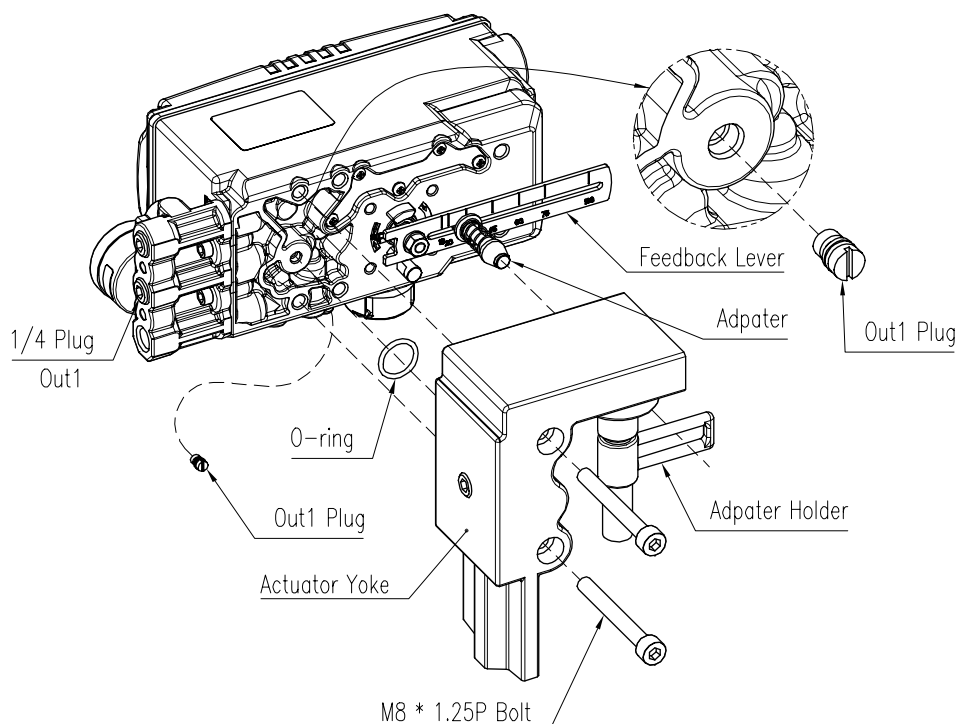

Fig. 3-19: Installing the positioner on the actuator
- 1) Remove Out1 Plug(Fig. 3-19) on the bottom of the positioner. Plug up out1 port of gauge block with 1/4 plug using sealant.